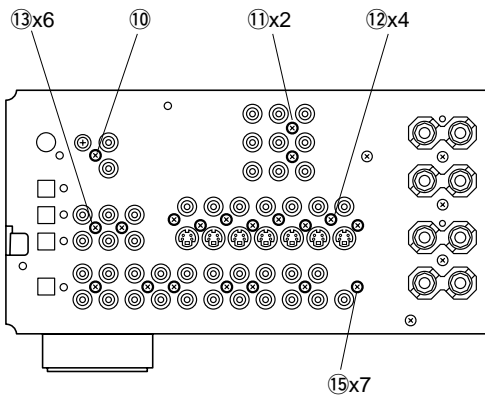

Fig. 4
- b. Remove 1 screw (⑩) and then remove the Input (4) P.C.B. in Fig. 4.
- c. Remove 2 screws (⑪) and then remove the Operation (5) P.C.B. in Fig. 4.
- d. Remove 4 screws (⑫) and then remove the Operation (3) P.C.B. in Fig. 4.
- e. Remove 7 screws (⑬ and ⑭) and then remove the Operation (2) P.C.B. in Fig. 4 and 5.
- f. Remove 8 screws (⑮ and ⑯) and then remove the Input (1)/(2) P.C.B. in Fig. 4 and 5.